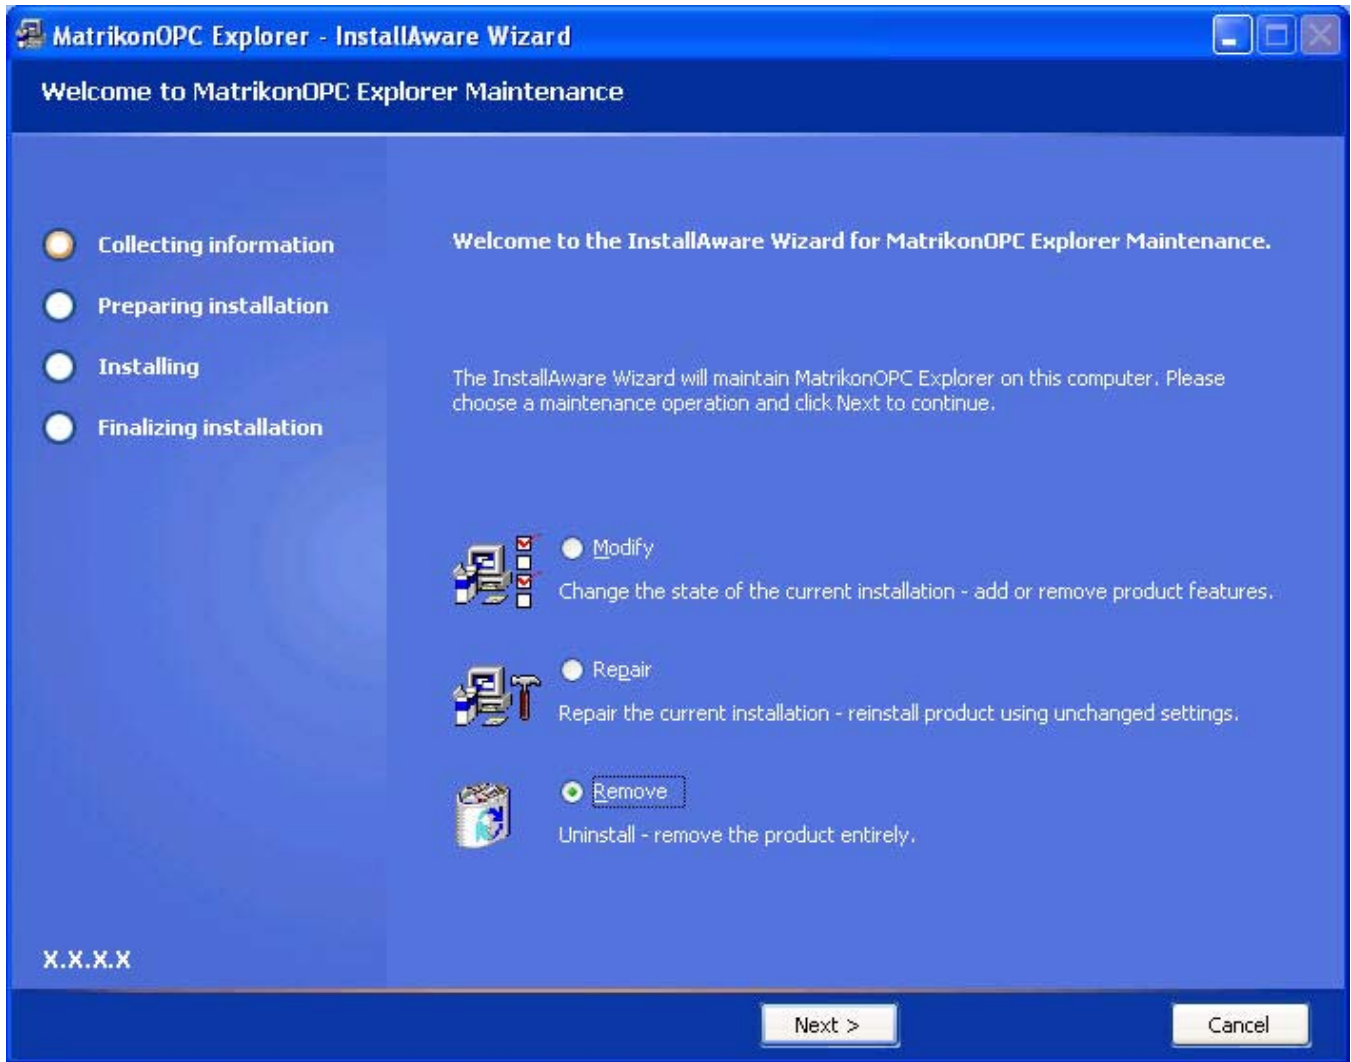

Figure 37 - Welcome to MatrikonOPC Explorer Maintenance Screen
6. The **MatrikonOPC Explorer – InstallAware Wizard** appears and the **Welcome to MatrikonOPC Explorer Maintenance** screen (Figure 37) is displayed.